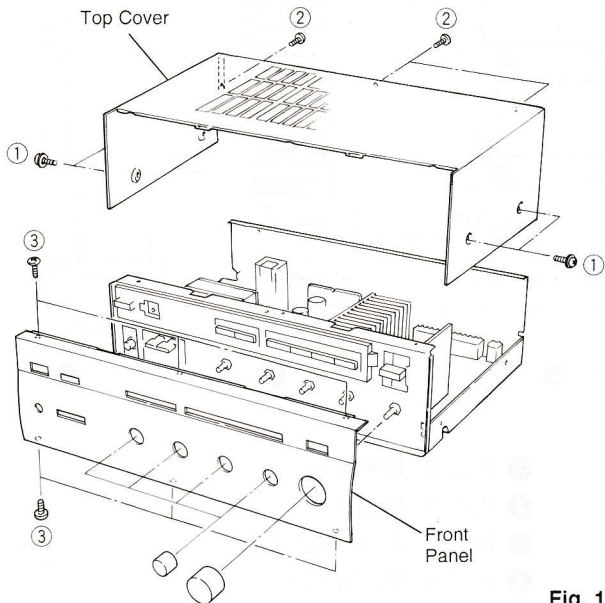

Fig. 1
Remove 4 screws (①) and 3 screws (②) in Fig. 1.
- Remove 6 screws (③) in Fig. 1.